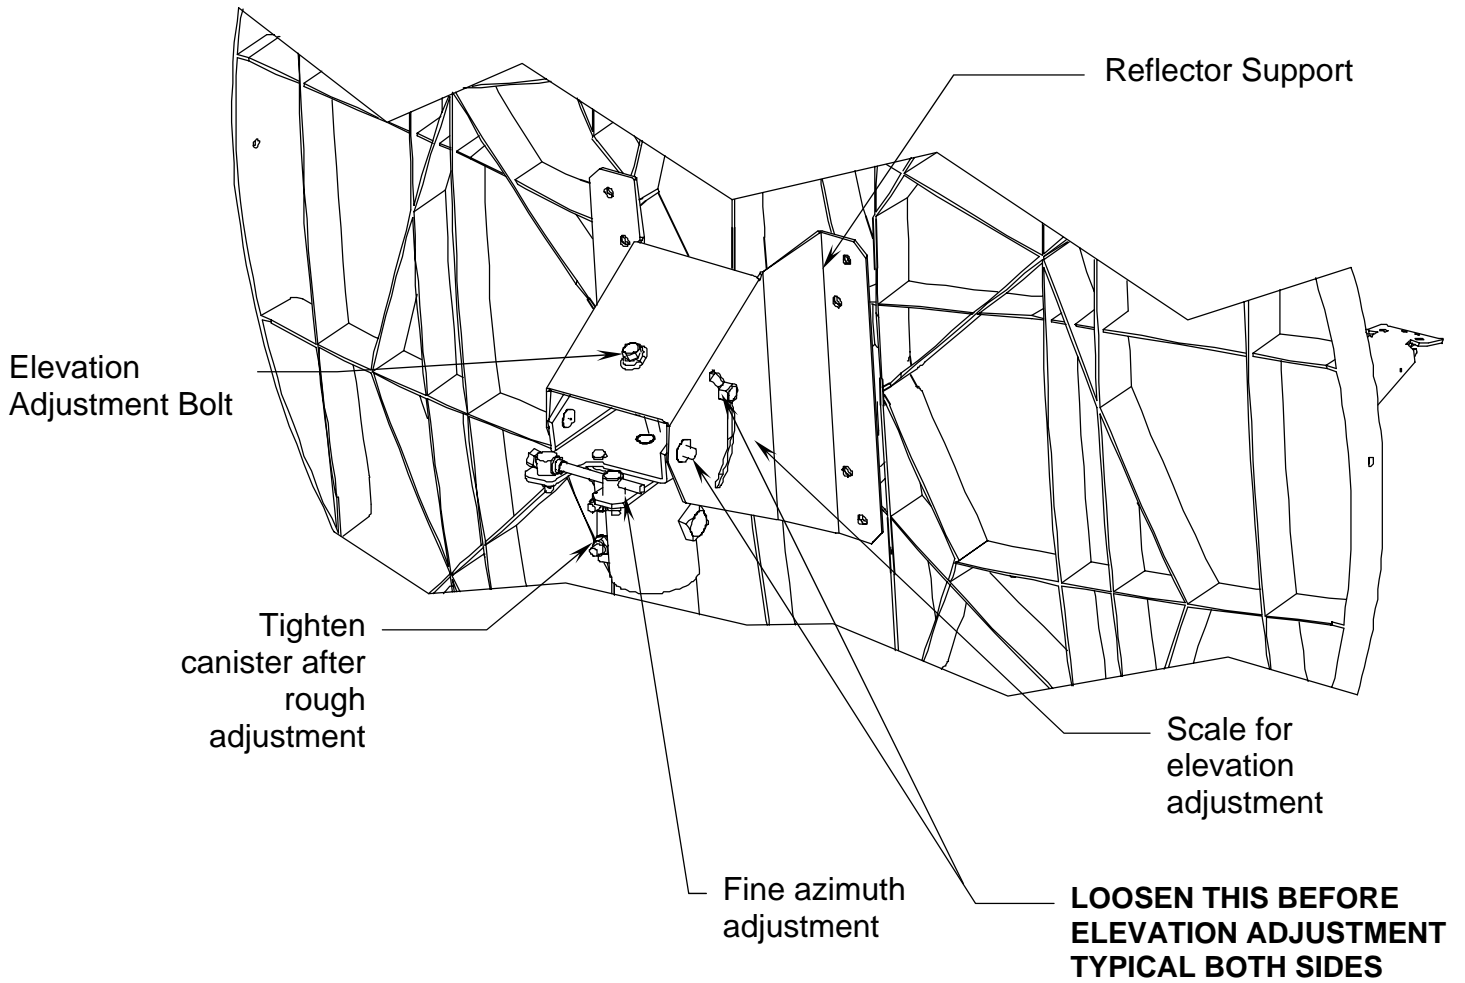

FIGURE 2.
The 1.2 meter reflector contains a 17.3° elevation offset look angle. Therefore, when the reflector aperture is perpendicular to the ground, the antenna is actually looking 17.3° in elevation. Refer to Figure 2.
STEP 1: BEFORE ADJUSTING ELEVATION LOOSEN THE HARDWARE ON BOTH SIDES OF THE POSITIONER, REFER TO FIGURE 2 FOR LOCATION. Adjust the reflector up or down in elevation by turning the 5/16" Bolt at the az/el positioner until the desired elevation is read on the side of the positioner. This scale is used for nominal readings and is accurate to ± 2 degrees. ***Note: Elevation rod is for adjustment only, it is not intended to be part of the structural integrity of the assembly, tightening the elevation rod is not necessary.*** Snug the hardware at the side of the positioner.